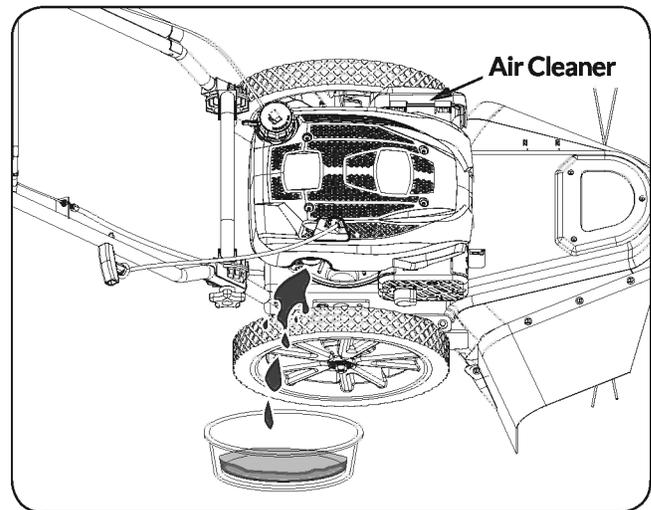

Figure 14
5. Tip the machine onto its side (so that the air cleaner is up) to drain the used oil from the oil-fill tube. (See **Figure 14**)